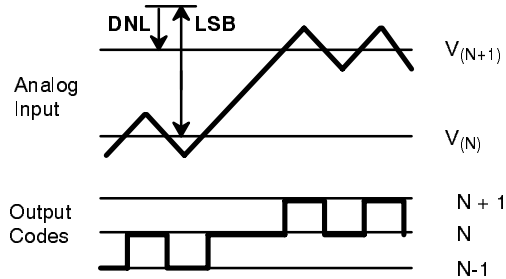

Figure 10. DNL Measurement
- ¹ Tester measures code transitions by dithering the voltage of the analog input (V_{IN}). The difference between the measured and the ideal code width ($V_{REF}/256$) is the DNL error (Figure 10.). The INL error is the maximum distance (in LSBs) from the best fit line to any transition voltage (Figure 11.) Accuracy is a function of the sampling rate (FS).